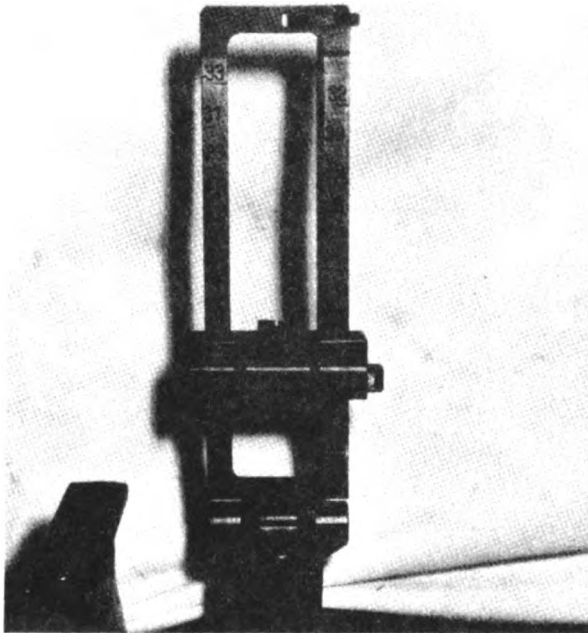

Figure 3
(1) Adjust rear sight: (See fig. 3.)